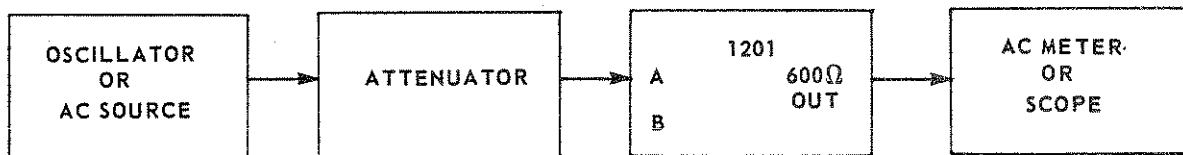

FIGURE 1.3.1 Initial Test Setup
3. Connect test equipment to the 1201 as shown in Figure 1.3.1.